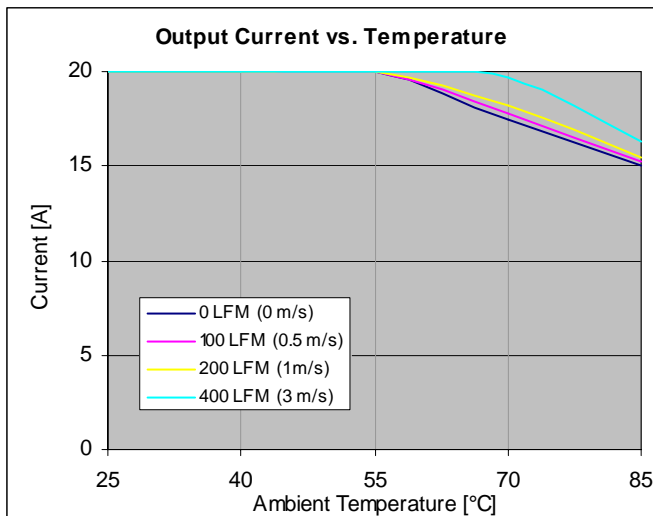

Figure 16. Output current vs. ambient temperature,  $V_{IN} = 24Vdc$  ( $T_J \leq 120^\circ C$ ).
4. Output derating applies at elevated temperature. See Figures 16 and 17.